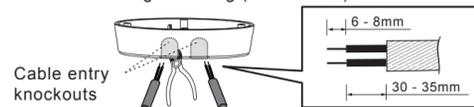

FIG.12
3.4.3.2 To feed AC power cables through the side of enclosure, please use the cutting pliers to break the cable entry knockouts on the side of enclosure, then feed cables through it. Strip off 6 - 8mm of cable sheathing for wiring (See FIG.12).